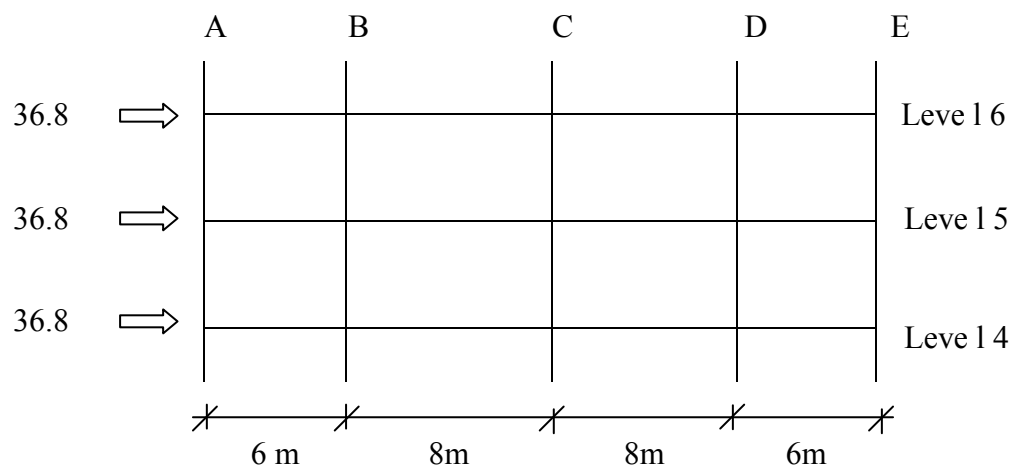

Figure 2
- b) A subframe of ten storey rigid frames has experienced an equivalent horizontal force as shown in Figure 2. The storey height is typically 3.0 m, to give a total height of 30m. The frames are spaced at 9m. Using the Portal Method, calculate :